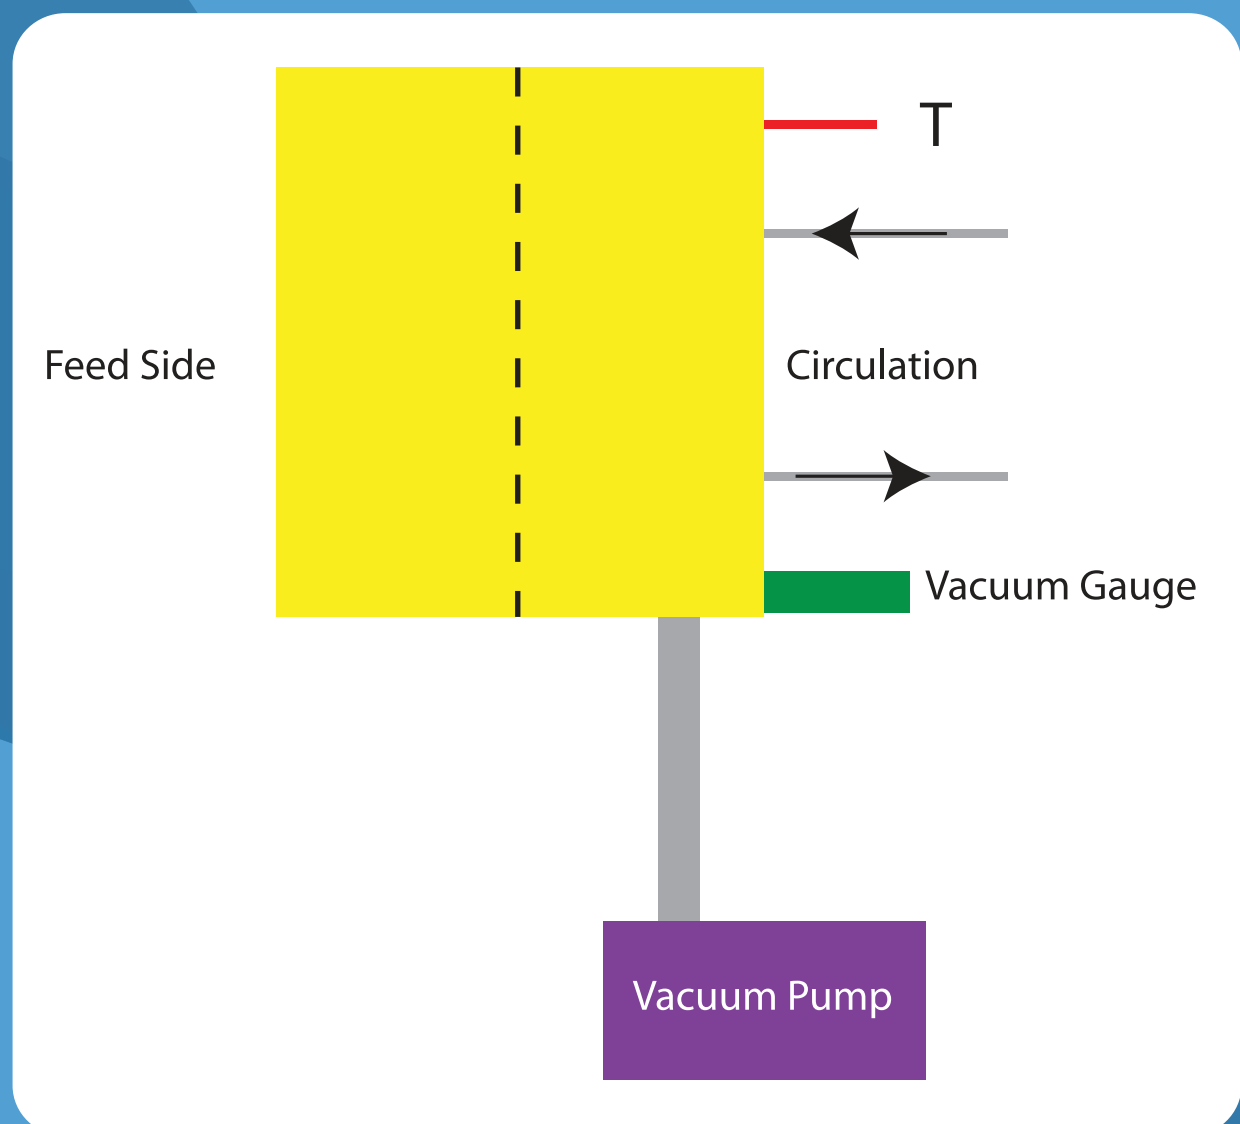

Figure 2. Vacuum Membrane Distillation
**Vacuum Membrane Distillation :** The layout is shown in Figure 2. Salt water is circulated through feed side of the sample chamber. Vacuum side of the sample chamber is maintained at a constant temperature. The chamber is evacuated to the desired pressure. Evacuation is then stopped and increases of pressure in the system due to transfer of vapor is measured. When specified pressure is reached the chamber is evacuated again. The procedure is continued. Transfer rate can be computed from the rate of pressure increase. Integration can yield total transfer. Feedside penetrometer also yields the rate of transfer.